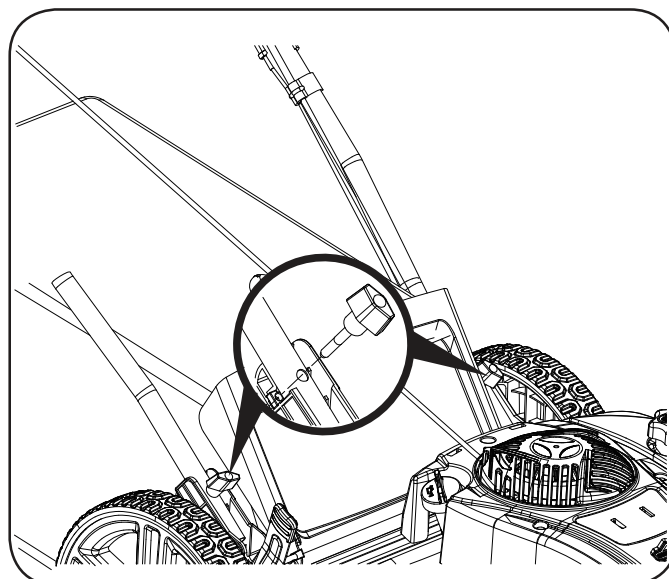

Figure 3
2. Screw the handle fixing knob for mounting the lower handle on the mower handle holder (Figure 3).